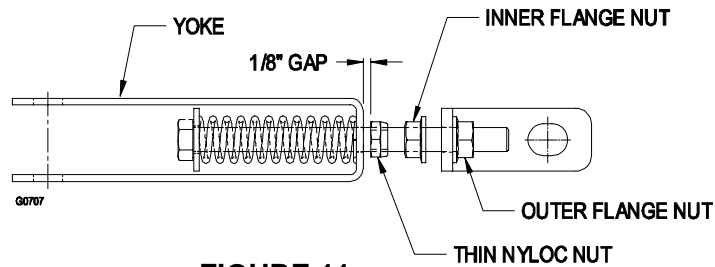

FIGURE 11
- f) If necessary, loosen the inner flanged nut and turn the outer nut to obtain the 1/8" (3.2mm) gap. Re-tighten the inner flanged nut. See Figure 11